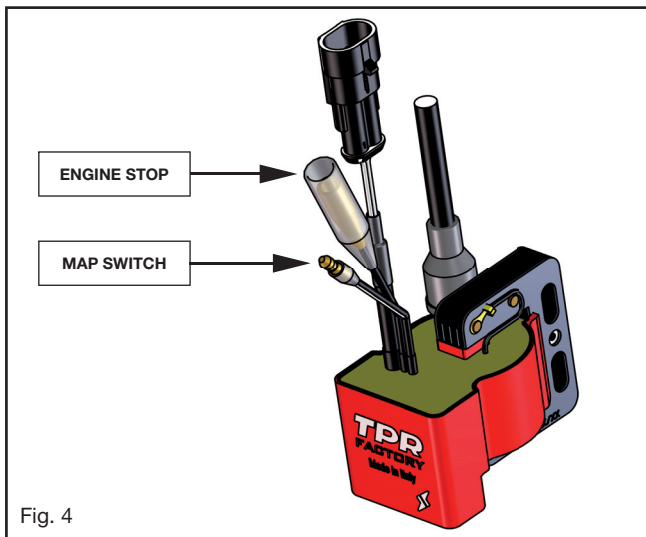

Fig. 4
- Connect the cable with female connector (Fig. 4) to the engine stop switch; this lead, when connected to ground, interrupts the spark.
- Connect the male cable (Fig. 4) to the map switch (**NOT** supplied in the kit), by connecting the latter to ground it will be possible to use Map 2; this connection is not essential for the correct operation of the inner rotor ignition.